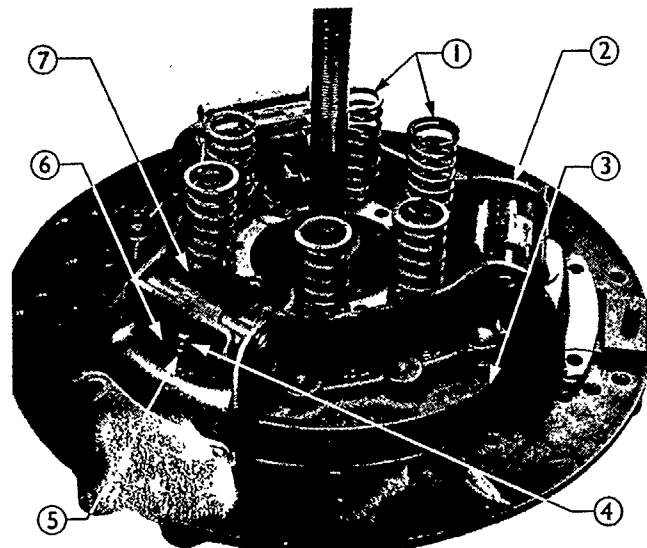

Figure 36
10. Remove the six pressure springs and the three release lever links, Figure 36.
2. Place the pressure plate on the fixture base and secure the cover assembly to the pressure plate with the three adjusting screws, flat washers, and locknuts, Figure 36. Tighten the locknuts fingertight.
3. Position the three release lever links on the release levers as shown in Figure 36, and install the six pressure springs.